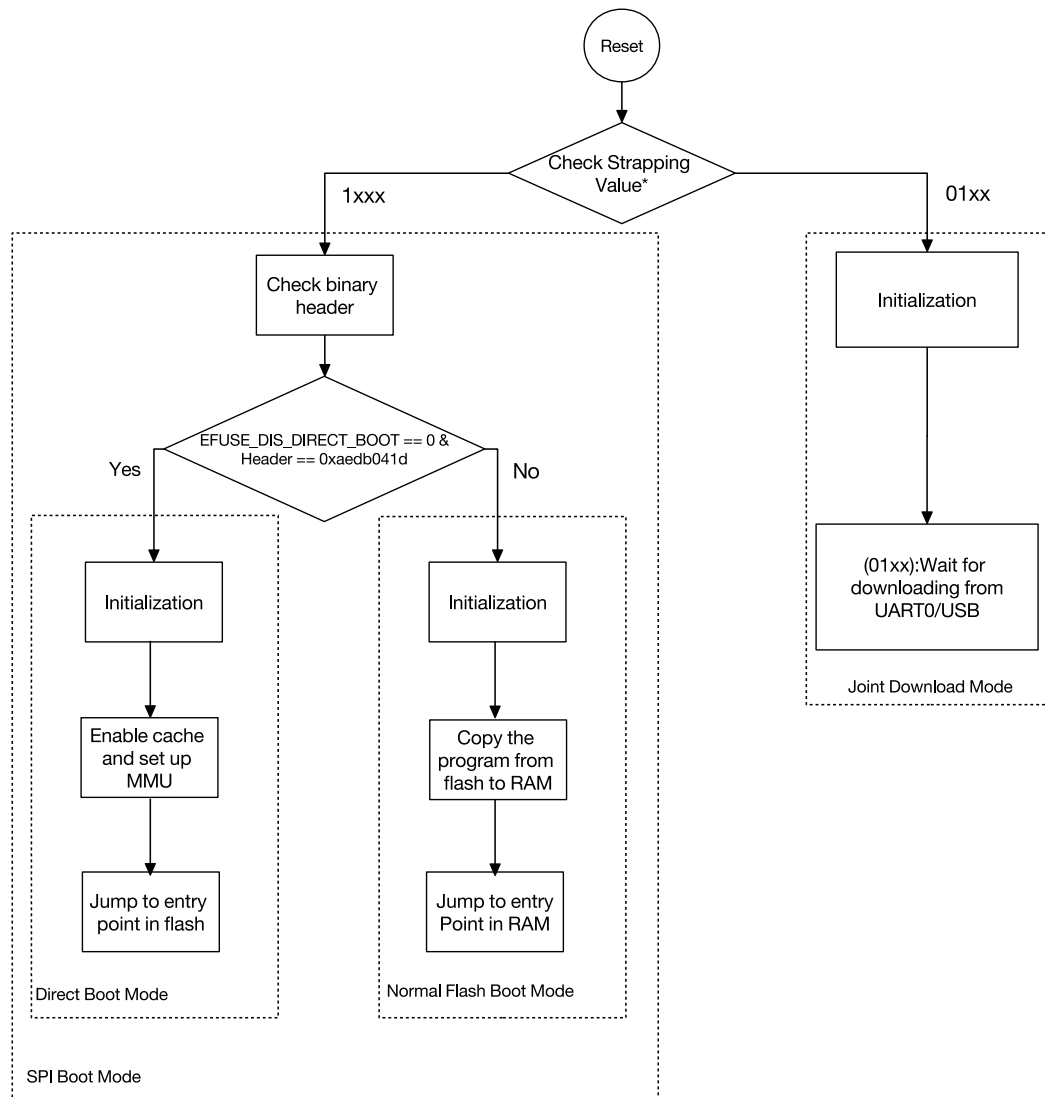

Figure 6.2-1. Chip Boot Flow
- **Direct Boot:** does not support Secure Boot and programs run directly from flash. To enable this mode, make sure that the first two words of the bin file downloaded to flash are 0xaedb041d. For more detailed process, see Figure 6.2-1.
Figure 6.2-1 shows the detailed boot flow of the chip.